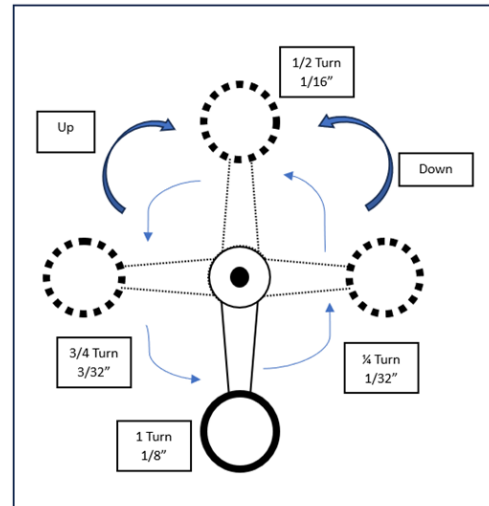

Figure 27: planer height adjustment recommendation.
**2- Depth of Cut Configuration:** The depth of cut, denoting the quantity of material to be removed, is determined by adjusting the table's distance beneath the cutterhead. This adjustment is achieved through the utilization of the table height crank situated on the right side of the machine, as illustrated in Figure 27.
**2- Table Elevation:** Gradually raise the planer table until the workpiece (as depicted in Figures 27 - 29) lightly contacts the bottom of the outfeed table.